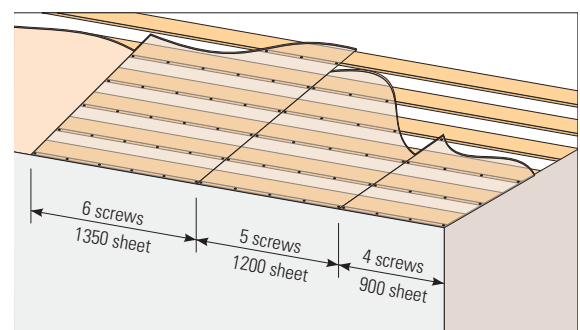

Figure 27 Screw fixing (only) layout for ceilings
- Use Table 7 and Figure 27 for the number of screwing points across the sheet width.